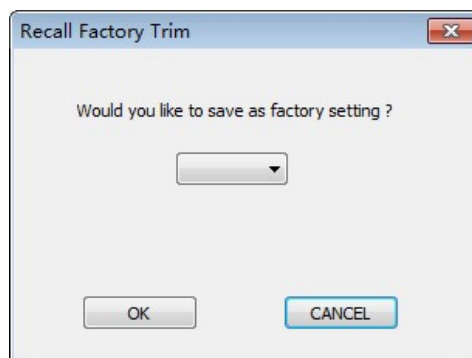

Figure 5.34 Save to factory settings
1. Click the "Calibration"->"restore factory settings"->"save to factory settings", pop up "save factory settings" window, as shown in Figure 5.34: